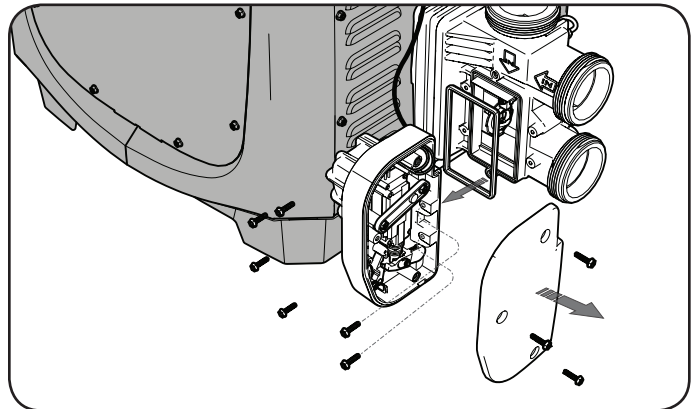

Figure 10. Remove VersaFlo Assembly
- a. The two screws inside the bypass housing (see Figure 10) should be started by hand.